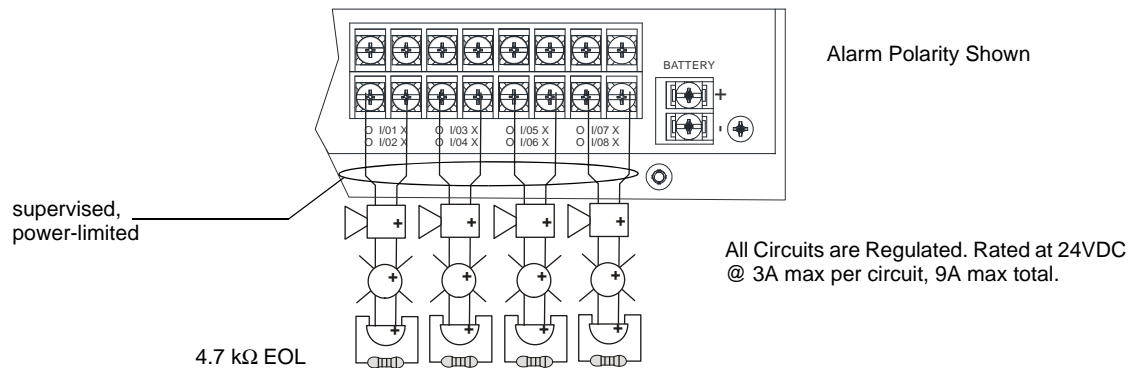

Figure 4.38 Class B Notification Appliance Circuit Wiring
1. Wire Class B notification appliances as shown in Figure 4.38.